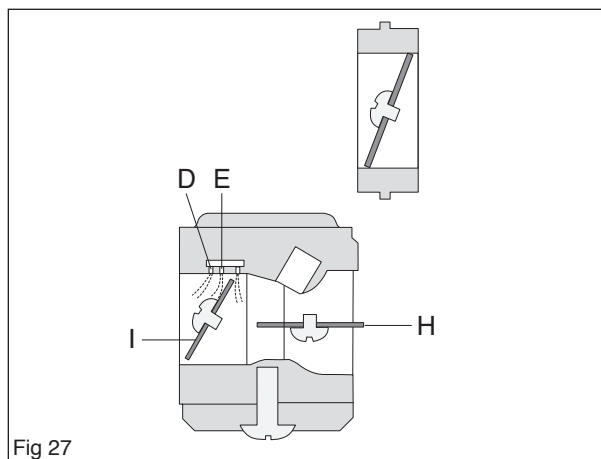

Fig 27
In the part throttle mode (see figure below) the throttle valve (I) is partially open and the choke valve (H) is open. Fuel is supplied through the diffuser jets (D and E). The throttle valve (J) starts to open. (see figure 27)